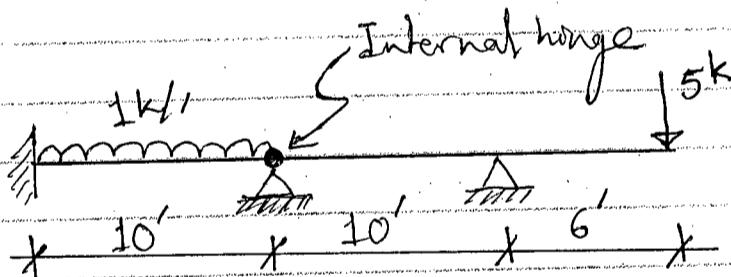

Fig. 10
6. (a) Draw bending moment diagram of the beam shown in Fig. 10 using the Stiffness Method. Given: $I = 1000 \text{ in}^4$, $E = 3000 \text{ ksi}$. (25)